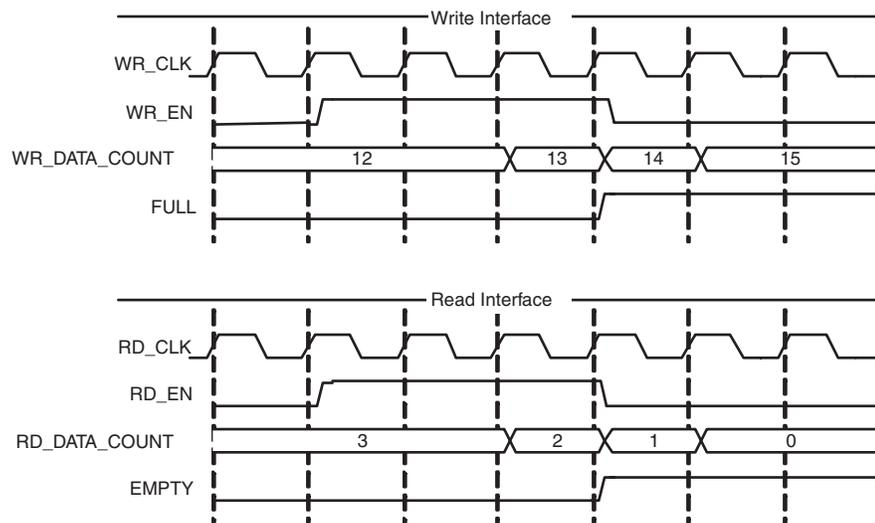

Figure 4-16: Write and Read Data Counts for FIFO with Independent Clocks
Figure 4-16 shows write and read data counts. When `WR_EN` is asserted and `FULL` is deasserted, `WR_DATA_COUNT` increments. Similarly, when `RD_EN` is asserted and `EMPTY` is deasserted, `RD_DATA_COUNT` decrements.
**Note:** In the first part of Figure 4-16, a successful write operation occurs on the third rising clock edge, and is not reflected on `WR_DATA_COUNT` until the next full clock cycle is complete. Similarly, `RD_DATA_COUNT` transitions one full clock cycle after a successful read operation.